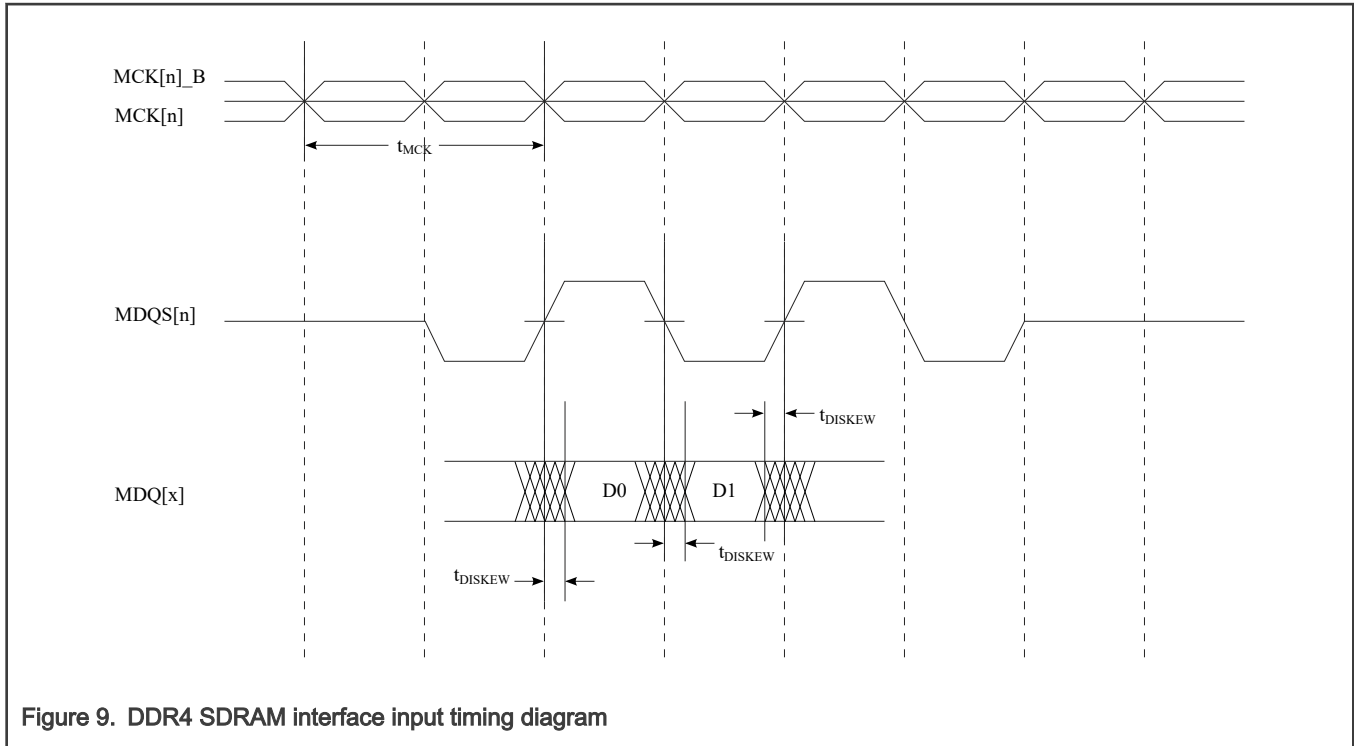
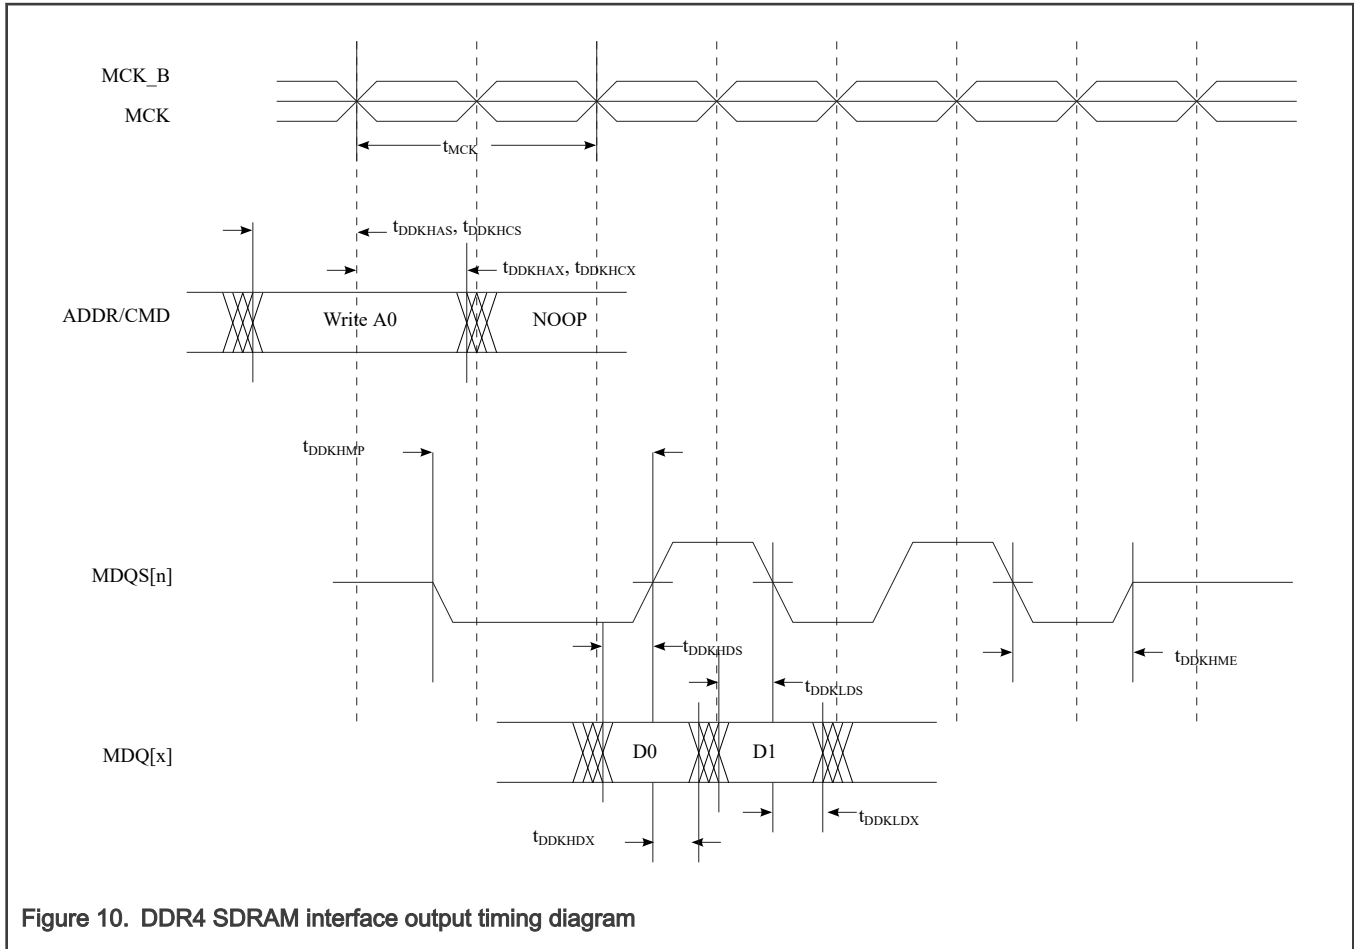

Figure 9. DDR4 SDRAM interface input timing diagram
Figure 10. DDR4 SDRAM interface output timing diagram
<p>1. tCISKEW represents the amount of skew consumed by the controller between MDQS[n] and any corresponding bit that will be captured with MDQS[n]. This should be subtracted from the total timing budget.</p> <p>2. The amount of skew that can be tolerated from MDQS to a corresponding MDQ signal is called tDISKEW. This can be determined by the following equation: <math>t_{DISKEW} = +/- (T / 4 - \text{abs}(t_{CISKEW}))</math>, where T is the clock period and abs(tCISKEW) is the absolute value of tCISKEW.</p> <p>3. See <a href="#">Figure 9</a>.</p>
2. See Figure 9.
4. The symbols used for timing specifications follow the pattern of t(first two letters of functional block)(signal)(state) (reference)(state) for inputs and t(first two letters of functional block)(reference)(state)(signal)(state) for outputs. Output hold time can be read as DDR timing (DD) from the rising or falling edge of the reference clock (KH or KL) until the output went invalid (AX or DX). For example, tDDKHAS symbolizes DDR timing (DD) for the time tMCK memory clock reference (K) goes from the high (H) state until outputs (A) are setup (S) or output valid time.
6. See Figure 10.